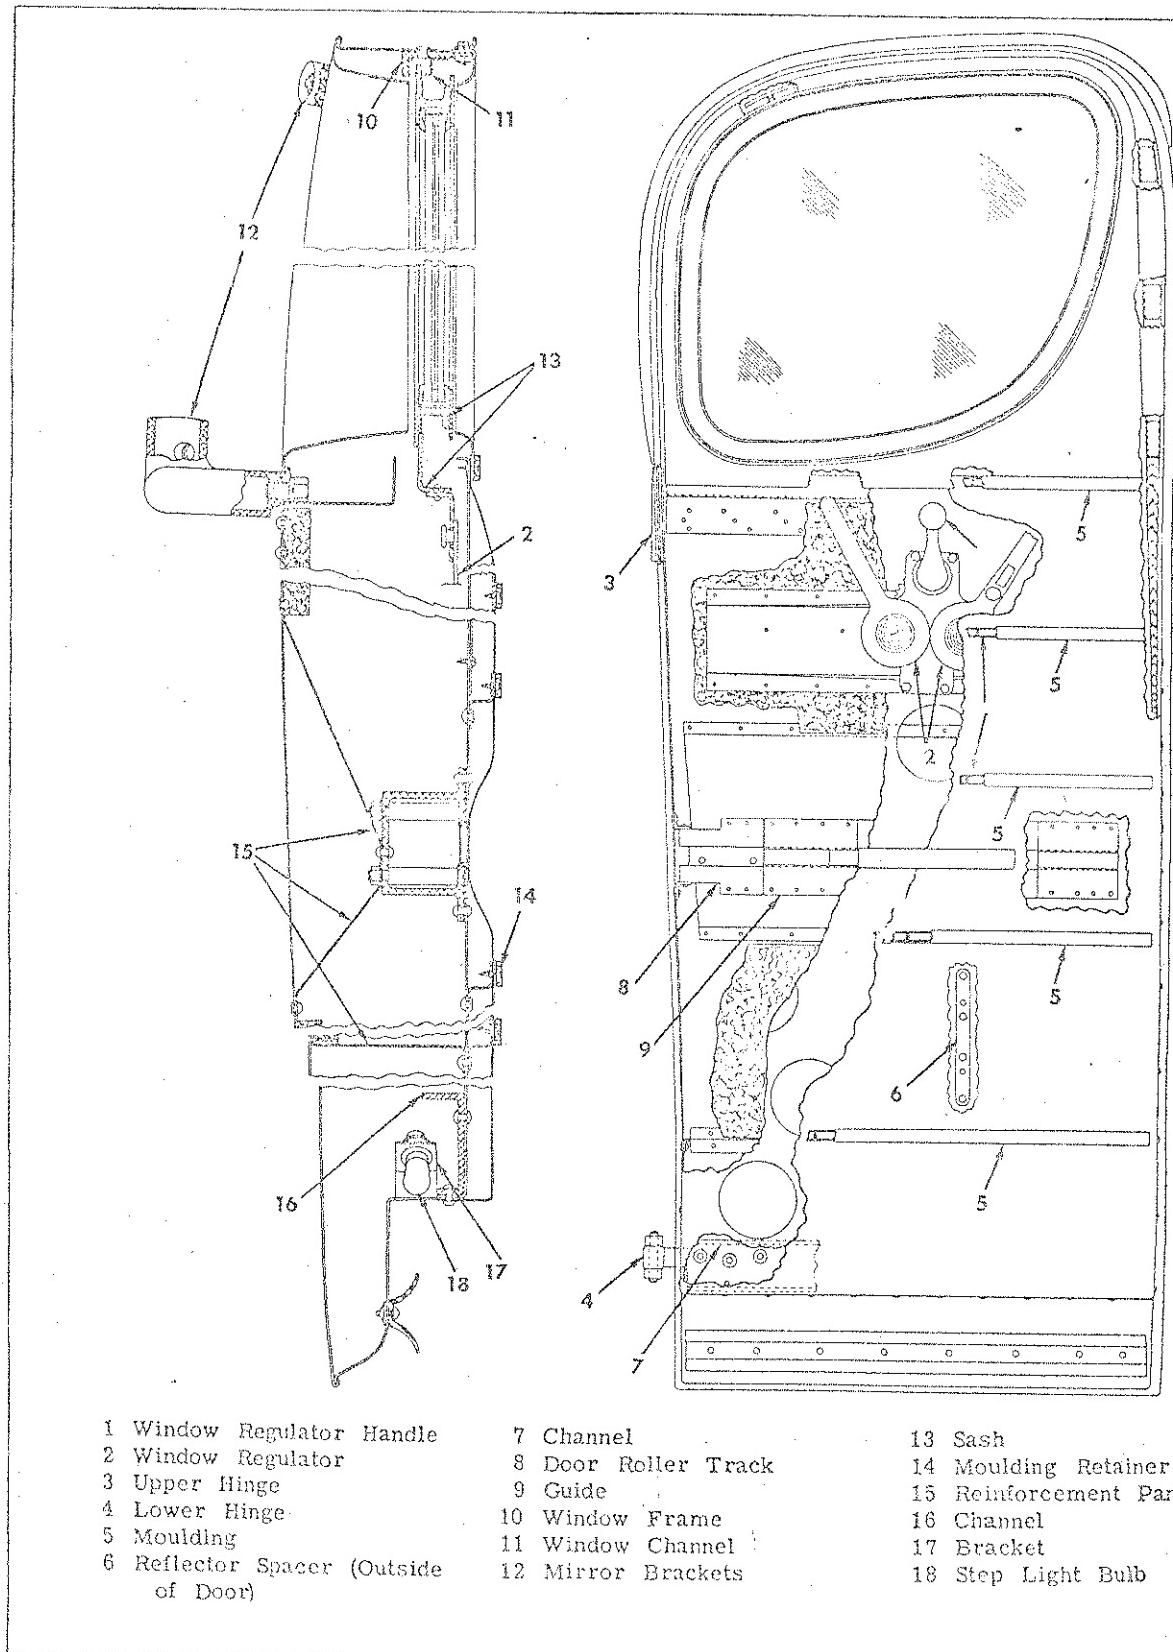

Figure 5—Front Entrance Door Construction
Entrance door (fig. 5) is composed of aluminum panels and framing. Door requires no maintenance other than regular lubrication of hinges and periodic inspection of seals.
Step light, shown in figure 5, is covered in Lighting System (Sec. 7G of this manual).
- Thread end of rubber insert through seal insert installer (fig. 5). At point opposite joint in retainer seal, push tool loop and end of insert into seal groove. Feed into groove in retainer seal. Use a hitching motion to prevent elongation of insert. Use large installer (7/16" eye, part of CS-1154-A) for all installations.